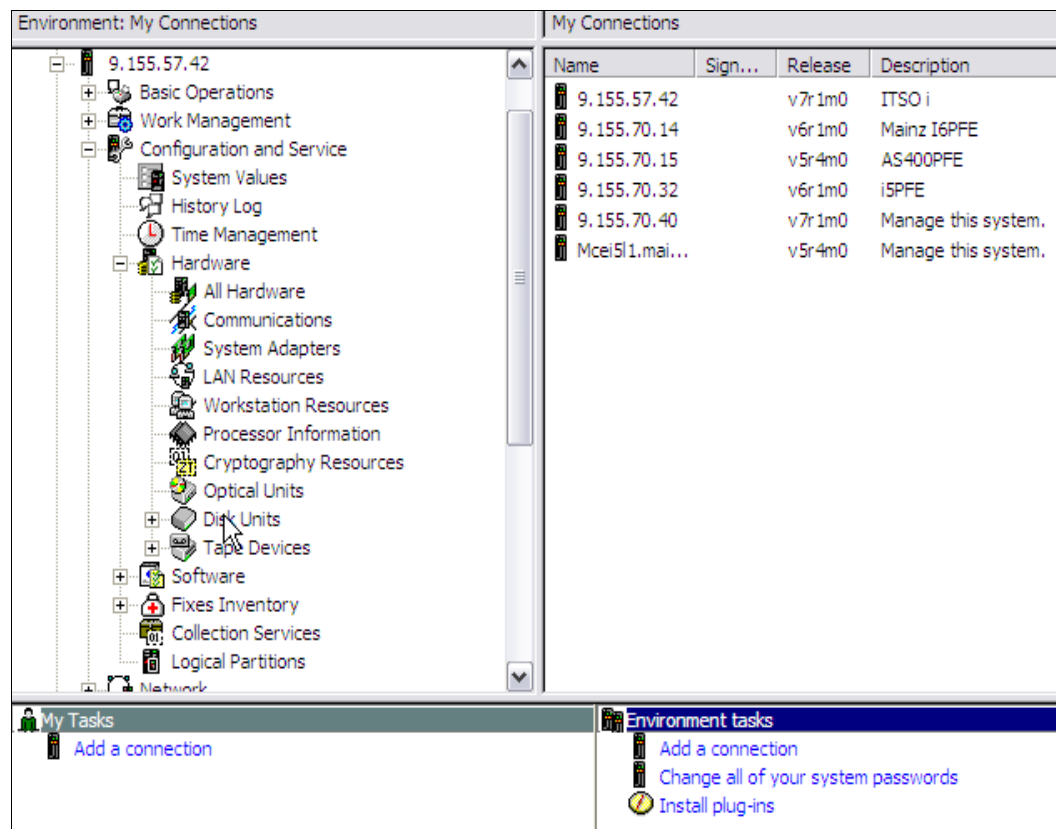

Figure 11-15 System i Navigator Disk Units
3. As shown in Figure 11-15, expand **Configuration and Service** → **Hardware** → **Disk Units**.